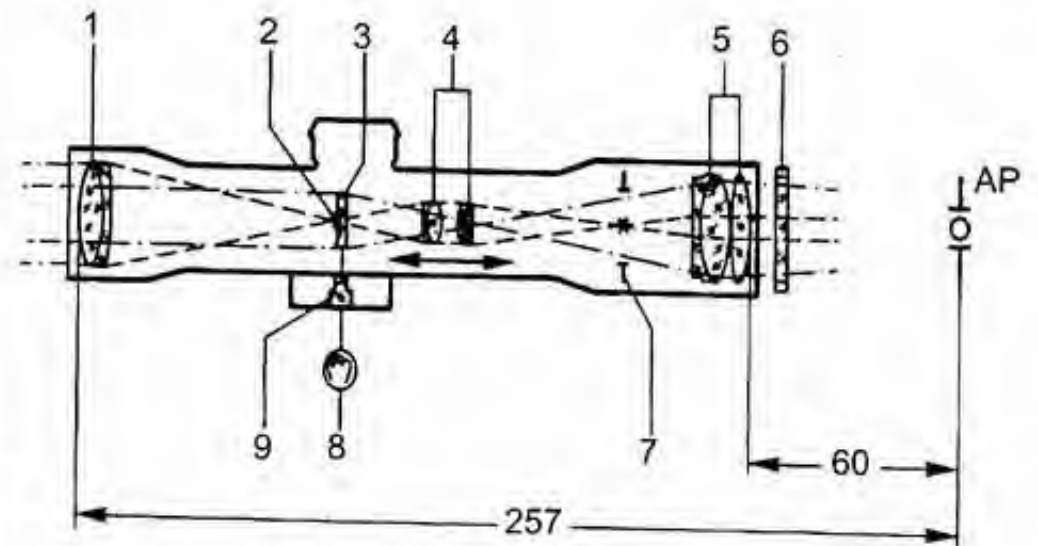

Fig. 3 FER0-Z 24
1.5.3 Mechanical Structure (Fig. 3)